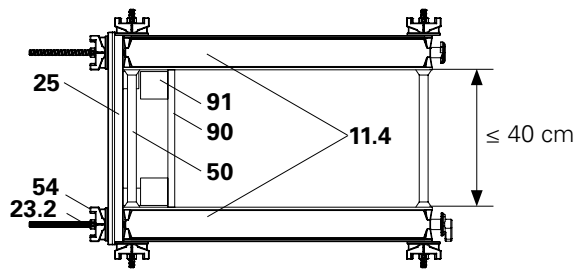
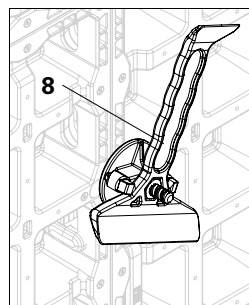

Fig. B9.03
Fig. B9.03c
1. Cut the filler plate (90) to suit the wall thickness.
2. Install the filler plate and two square timbers (91). (Fig. B9.03)
3. Mount the ties (50), see section B2, Tie system.
5. Position the DUO 62 compensation waler (25) on the DUO corner tie (23.1), and tighten with the wingnut counterplate (54) by hand or using the DUO cleaning device (8). (Fig. B9.03c)